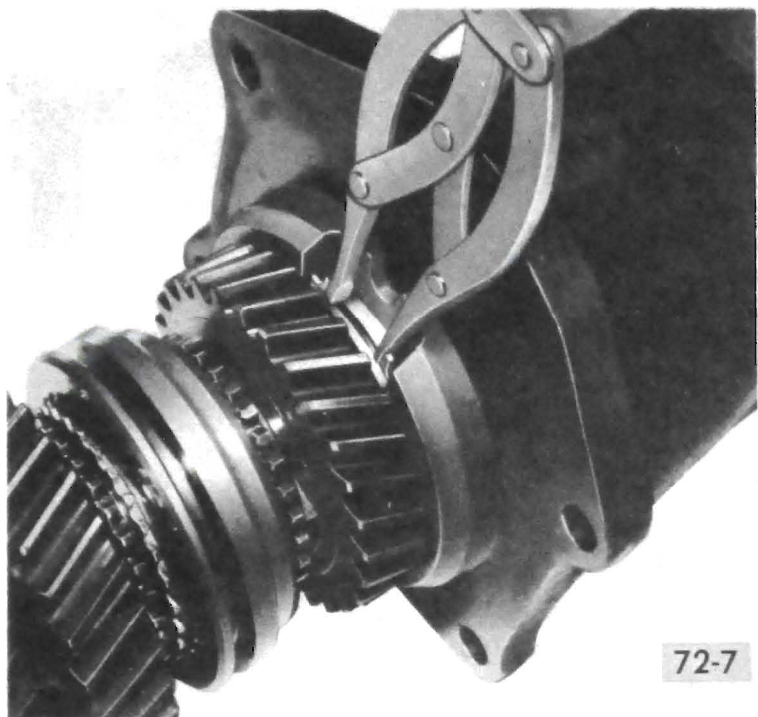

Figure 72-33 - Installing Rear Bearing Retainer
4. Install the rear bearing retainer. Spread snap ring in the retainer to allow the snap ring to drop around rear bearing. See Figure 72-33. Press on end of mainshaft until the snap ring engages groove in rear bearing.